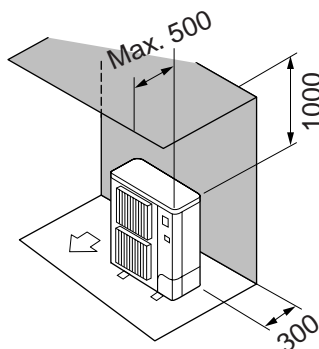

Fig.2-5
- Obstacles at rear and above only (Fig. 2-5)